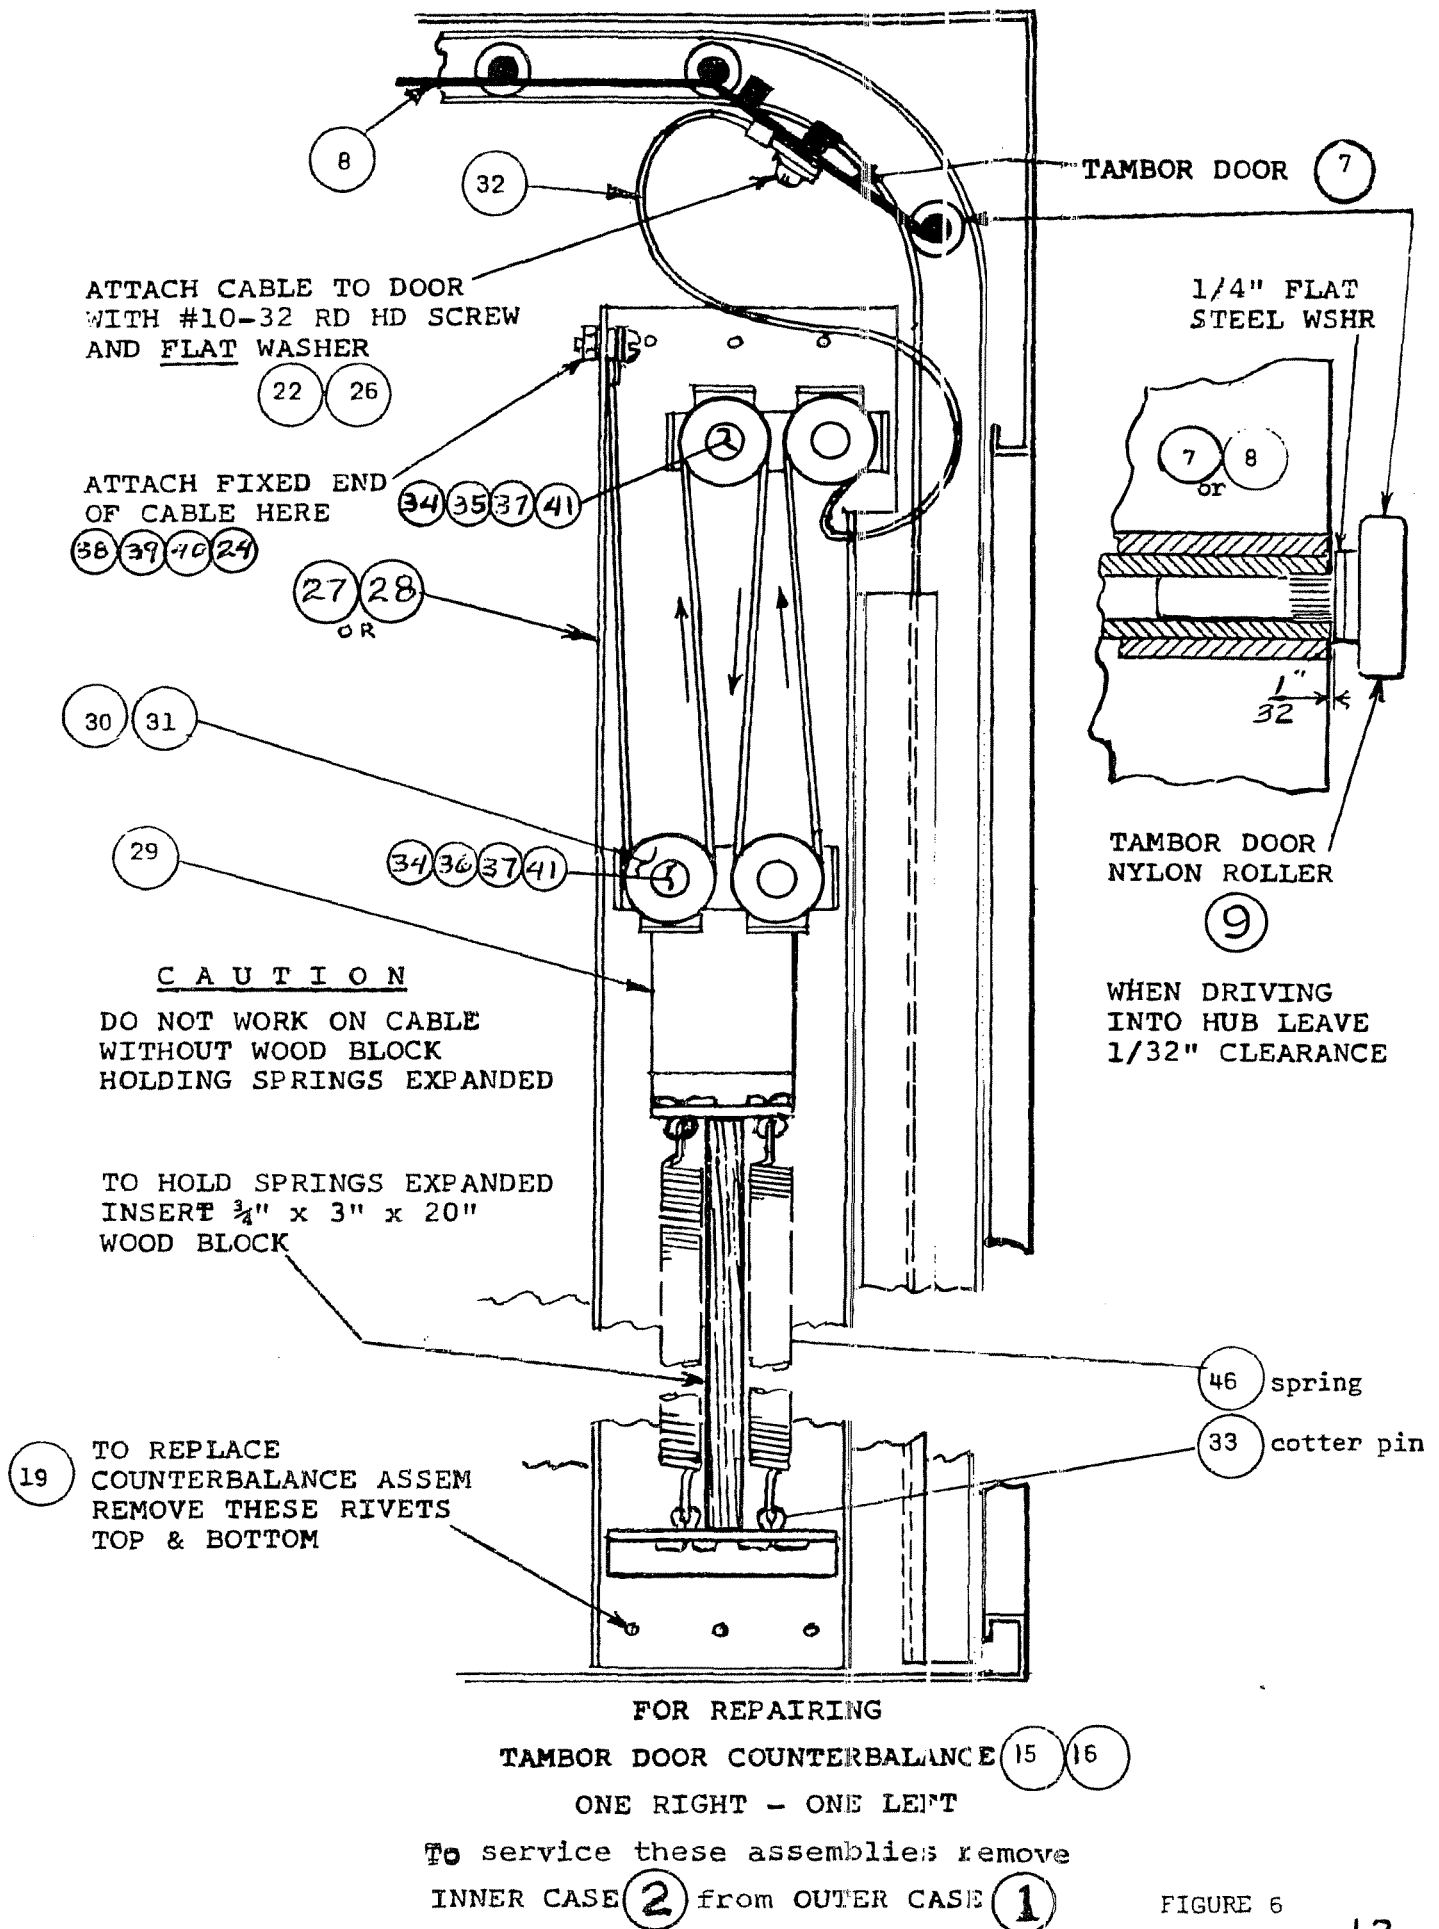

FIGURE 6
L. Tambor door, inoperative or defective - FIGURE 6 OR 6A
- a. Along each side in the rear of the outer case are spring counterbalance mechanisms, items 5 & 6, figure 6. These springs, item 46, must be expanded during removal of the tambor door. This can be accomplished by placing a wood block, as illustrated, against the bottom of the floating (upper) pulley bracket and in between the 2 springs and the push upward until the length of the block can be pushed between the springs. The bottom of the block will then rest on the angle bracket that the lower end of the springs attach to, thus holding the springs extended to about 20". Be sure to repeat this procedure for the other side of the unit.
- b. Looking from the front toward the rear, raise the tambor door high enough so that the cable attaching screws and washers, items 22 & 26, on the bottom section, are above the top pulleys and are accessible for removal. Block and hold the tambor door in this position.
- c. Pull excess slack cables, item 32, to the tambor door and remove the screws and washers, items 22 & 26.
- e. Remove the rollers, item 9, from the end of the section or sections, items 7 or 8, that are to be replaced. Slide this section from remaining sections and replace with a new one.
- f. Replace rollers, item 9, by driving in place with a small hammer.